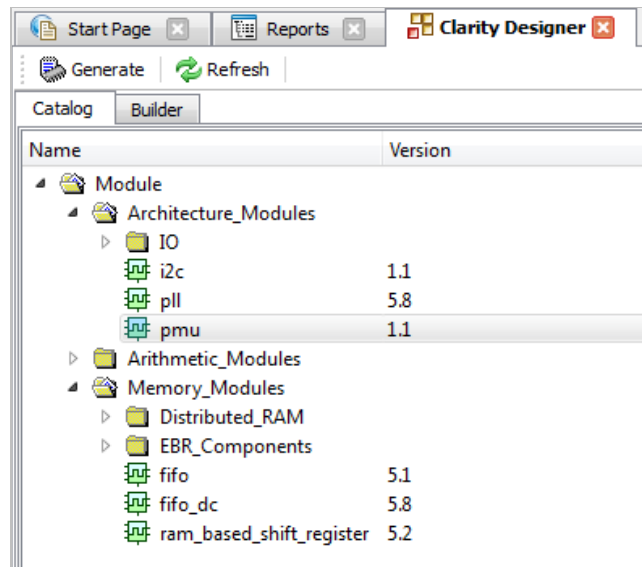

Figure 2.7. Clarity Designer PMU Selection
2. Provide the name of the project and select the HDL language of choice. The window appears as Figure 2.7.
3. Select the module you wish to generate. In this case, select **pmu** under **Architecture_Modules**, as shown in Figure 2.7.